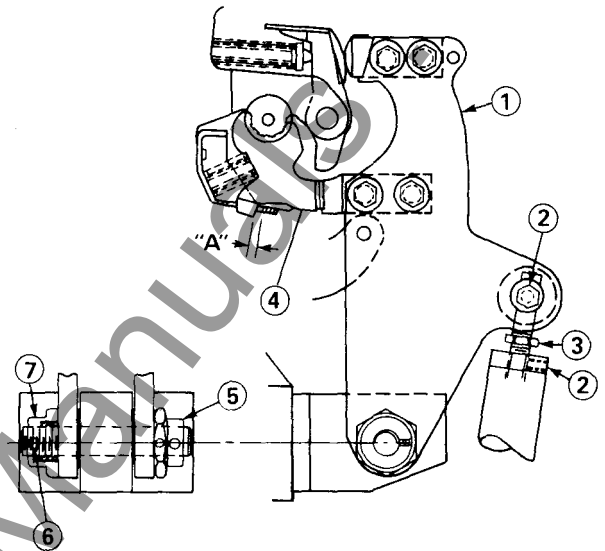

Fig. 4 — Contact Pressure and Bridge Pivot Pressure
5.2 CONTACT PRESSURE (See Figure 4)
5.6 BRIDGE PIVOT PRESSURE (See Figure 4)